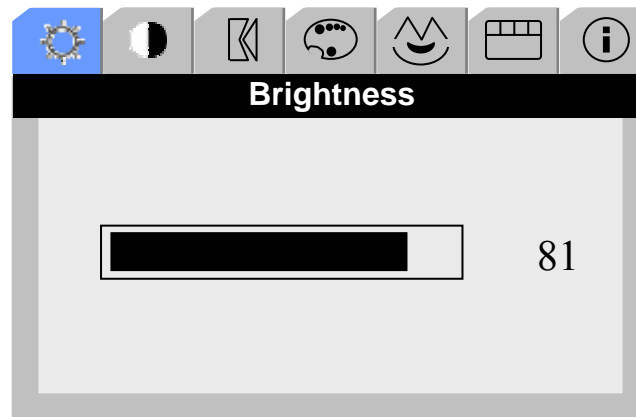

Figure 24: View of Initial OSD
2. The OSD will appear, see Figure 24.